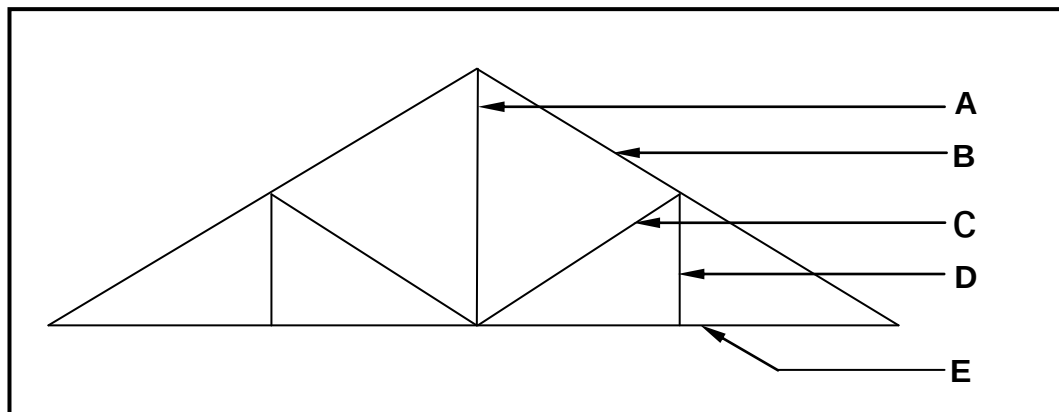

FIGURE 3.5
- 3.5 FIGURE 3.5 below is a drawing of a line diagram of a South African (Howe) roof truss. Identify parts **A–E**.